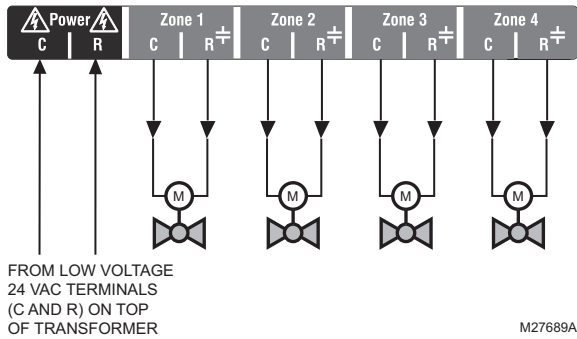

Fig. 12. Wiring an AQ15540B Zoning Module for use with low voltage zone valves without end switches.
1. Low voltage zone valves without end switches: Using Fig. 12 as a guide, run jumper wires from the R and C terminals on the top left of the AQ25A's transformer through the wiring channel across the top of the Control Panel, down through the wiring channel on the right side of the panel and over to the R and C terminals on the bottom of the Zoning Module